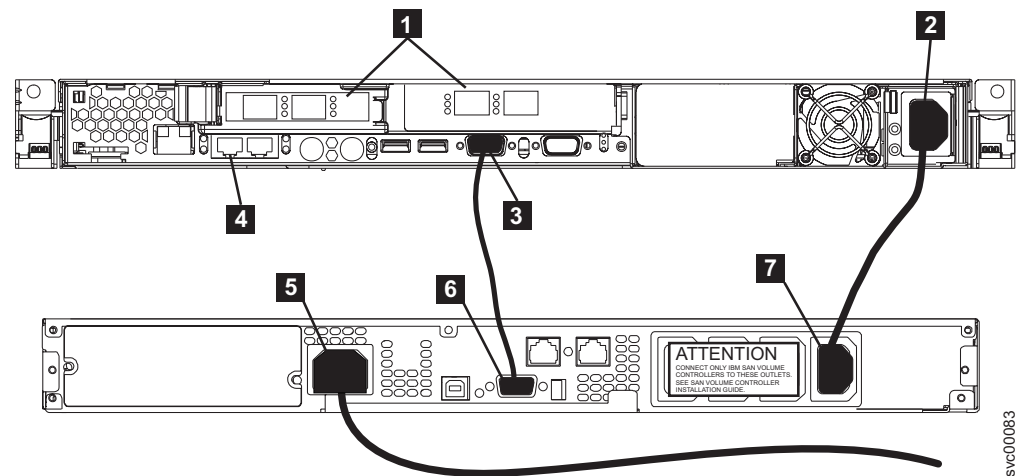

Figure 49. Connecting the SAN Volume Controller 2145-8F2 power cable to the 2145 UPS-1U
1. At the back of the SAN Volume Controller 2145-8F2 or SAN Volume Controller 2145-8F4, plug a power cable into the power connector **2**. See Figure 49.